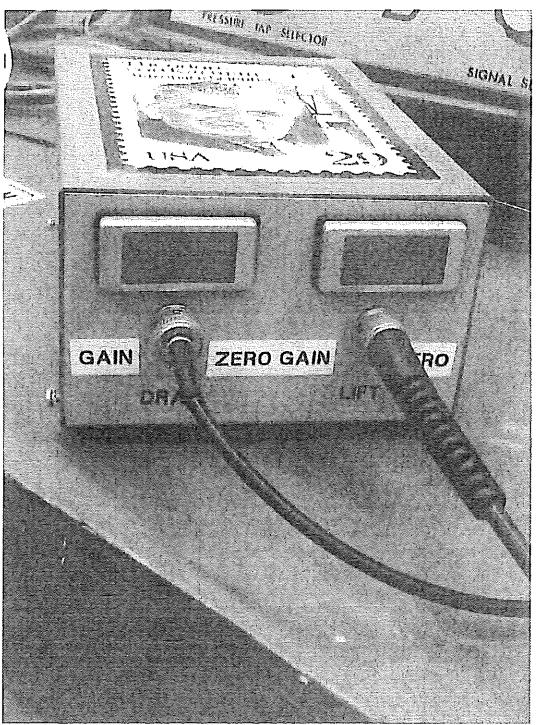

Figure 3: Lift and Drag console.
3. Turn on the Lift and Drag Console shown in Figure 3 (switch is on the back).